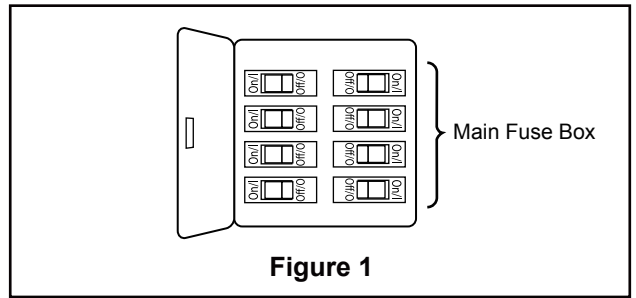

Figure 1
- 1. Disassemble switch cover assembly from switch housing removing four screws. Retain these screws for Step 4. (Figure 1)
1. Restore electrical power to the outlet box by turning the electricity on at the main fuse box. (Figure 1)